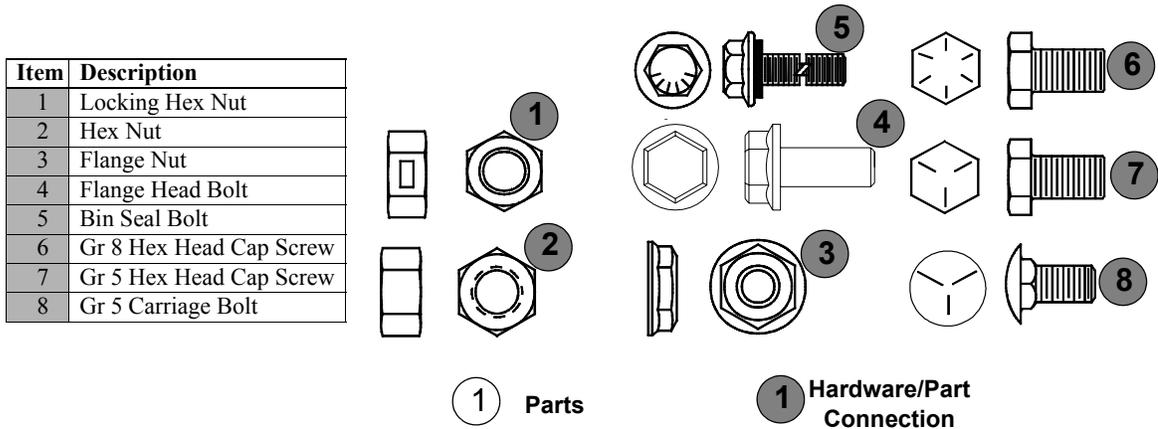

Figure 8. Hardware Identification
- Hardware (and hardware **connections** between Parts) are identified with a white number in a **shaded** circle. See **Figure 8**. Hardware Item numbers are listed after the Parts in a **Figure** Table.